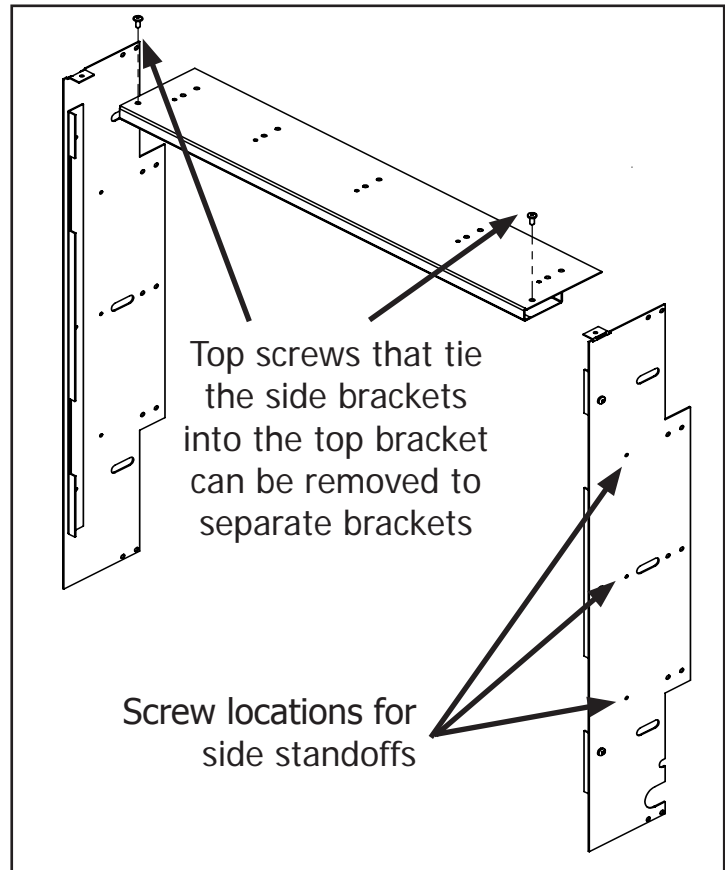

Figure 33. Removing Extension Brackets
5. Install the side standoffs (if required) onto the side extension brackets using the forward set of free holes. Adjust the depth of the side standoffs as needed (see Figure 33). Also see the INITIAL INSTALLATION - STANDOFFS section of the manual.
A 10" (254 mm) x 10" (254 mm) frame (see Figure 33) will assure the proper support and spacing for the vent pipe as it passes through the wall. Installations in Canada require that a wall thimble be used for passing through walls and ceilings. All sealing and vapour barriers must comply with local building codes.